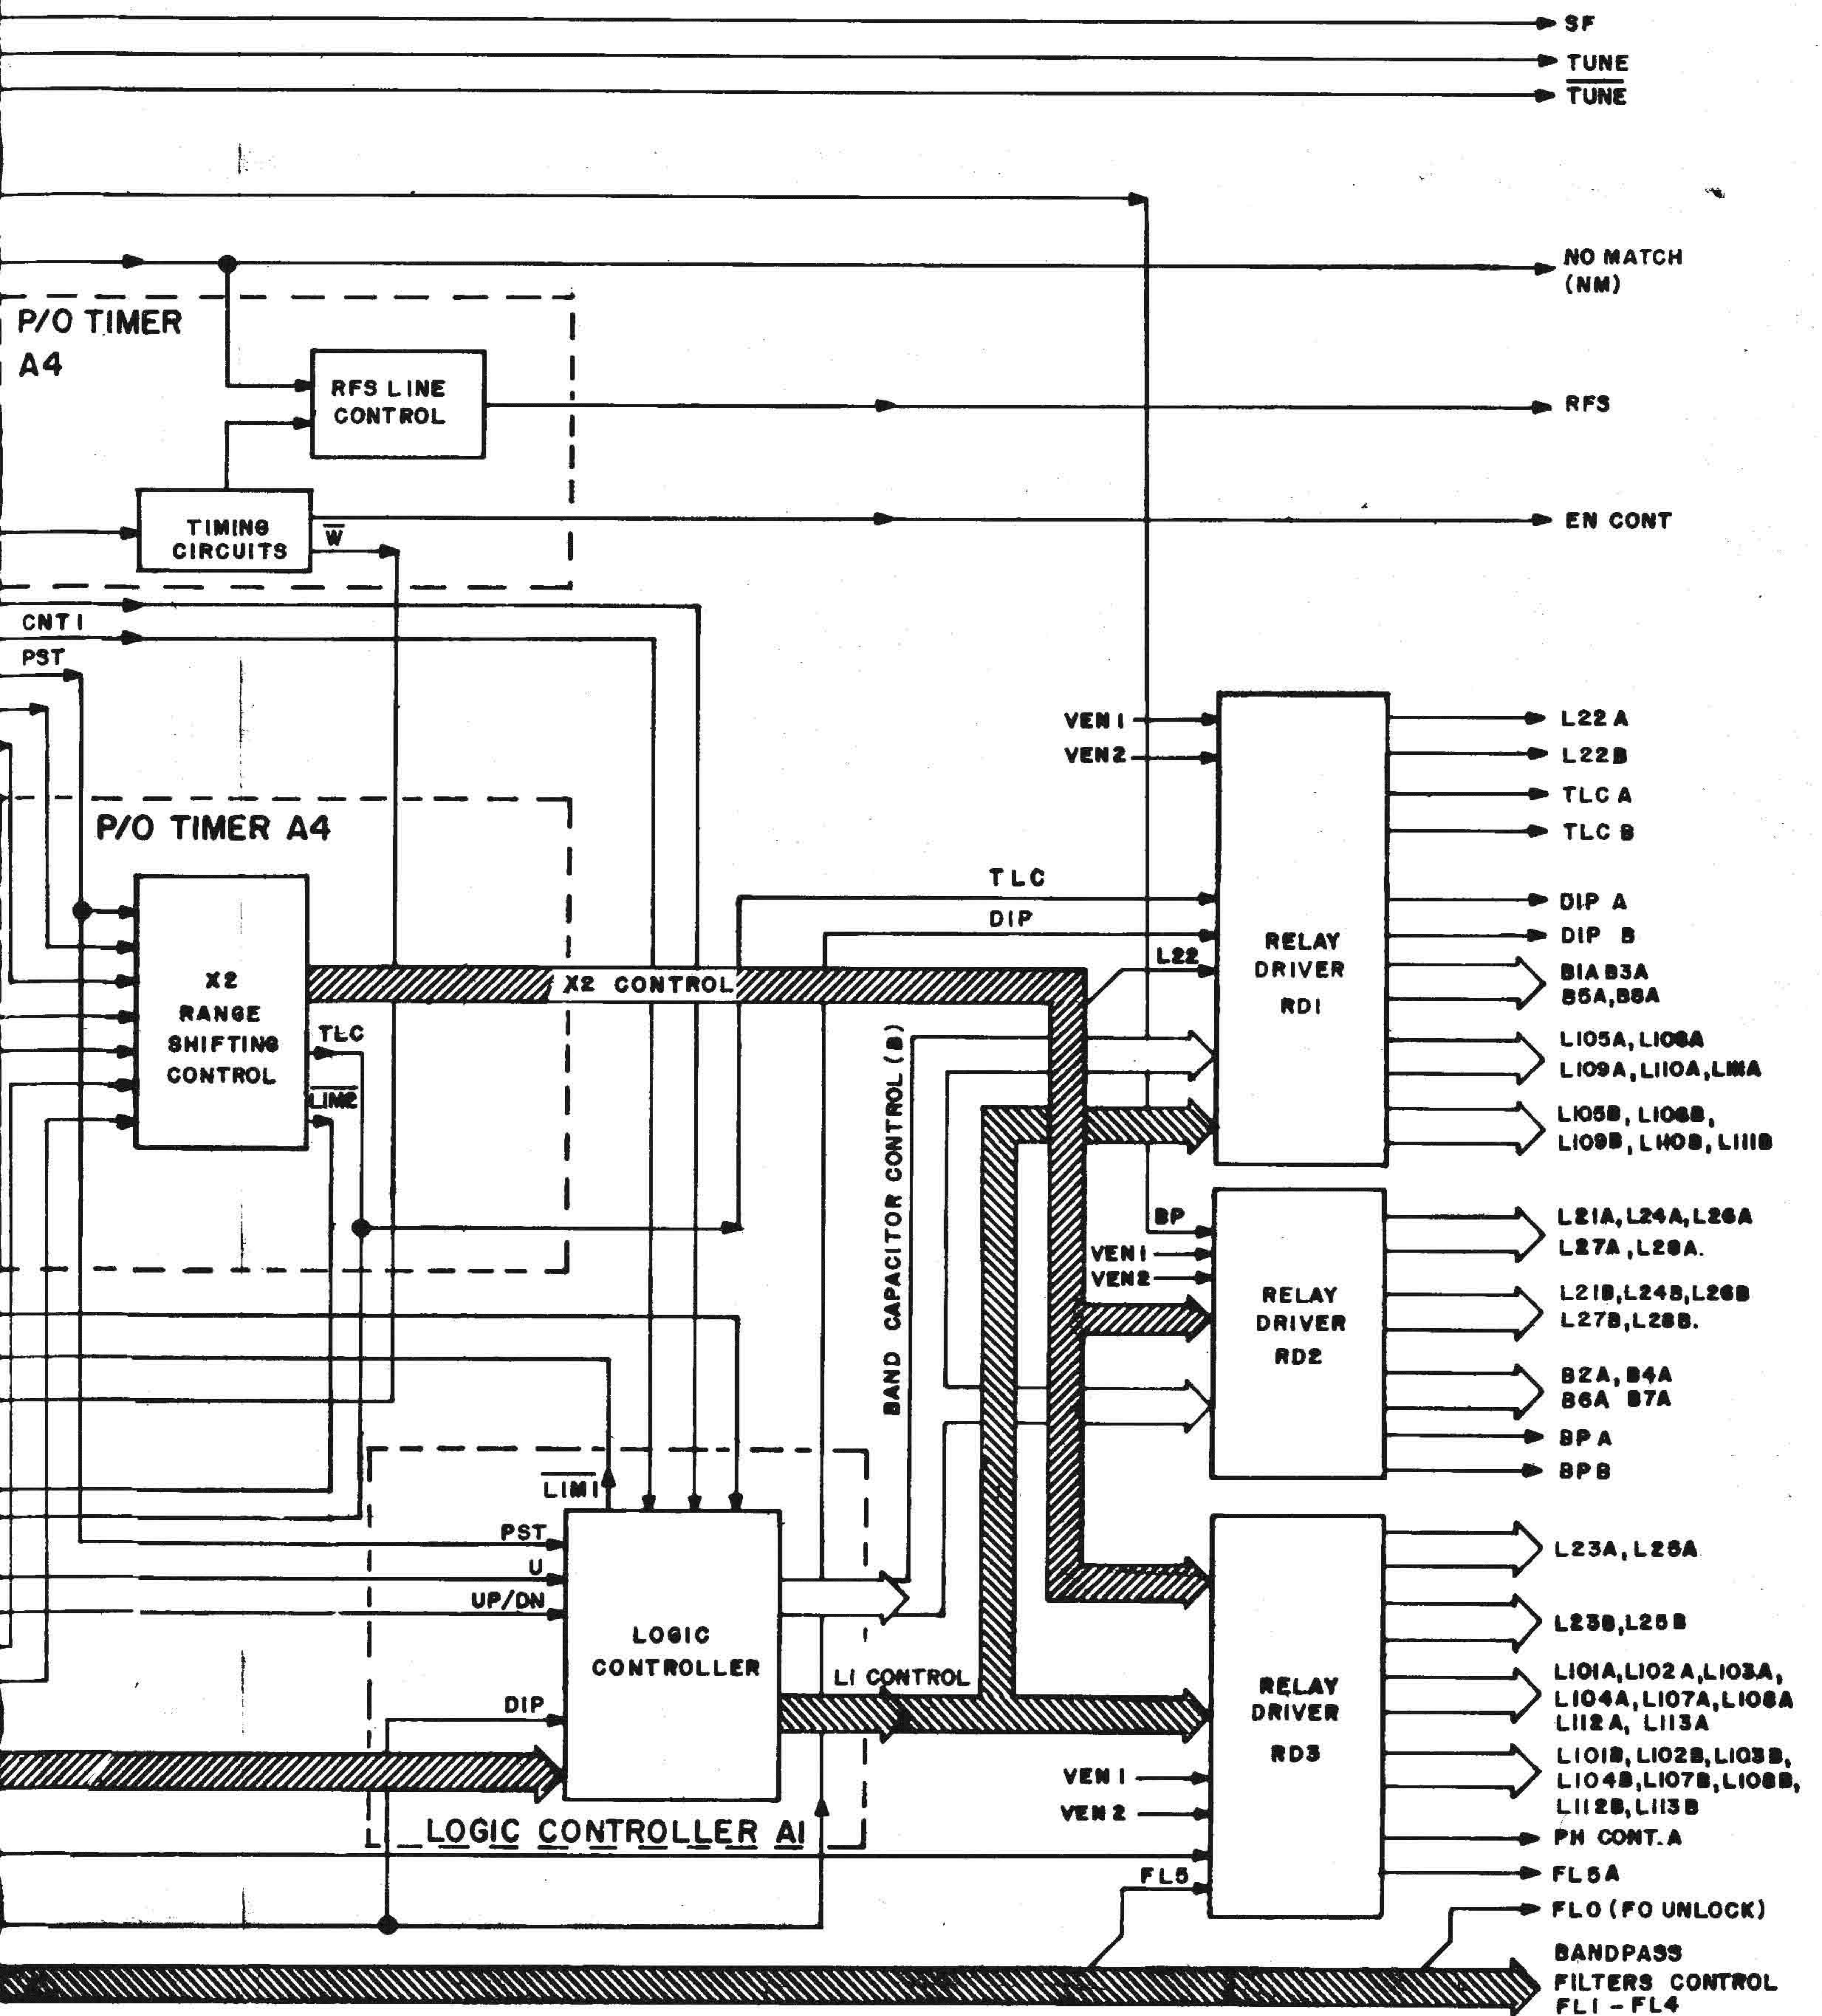

Fig. 2-31. Module LORD 1A5A2, block diagram
(fig. 2-31 through 2-42)
a. General Description (fig. 2-31).
(1) Logic controller A1: contains logic circuits and decoder which provide control signals for L1 and for the band capacitors in module MN 1A5A1.
(2) Decoder A2: contains logic circuits and decoders which provide control signals for the bandpass filters and phase detector selection relay in module SNF 1A5A3, and frequency range information to the logic controller, A1.
(3) Processor A3: contains the special-purpose processor.
(4) Timer A4: provides timing signals and controls the second variable series element, X2, in module MN 1A5A1, using information provided by the decoder A2.
(5) Relay drivers, RD (three microelectronic modules): convert the logic-level signals provided by the other microelectronic modules to drive signals appropriate for driving the controlled relays in modules SNF 1A5A3 and MN 1A5A1.
b. LORD Interface (fig. 2-31).
(1) The LORD receives the following control lines:
(3) Second matching trial. The second matching trial (point B) is automatically started when one of the two variable components reached its extreme value, without achieving a VSWR less than 1.5:1 or obtaining at least a level change on either the R- or ϕ -line. When the second trial starts (point B), the appropriate component of the matching network is brought to the home condition (the other extreme value, i.e. if the previous matching trial ended with minimum L2 inductance, the second matching trial starts with L2 at maximum inductance). If matching is not obtained in this condition, the program returns to point A and the operations described in (2) above are repeated. The second matching trial ends successfully only when the VSWR is less than 1.5:1, or level changes were obtained on both the R and ϕ lines.
(4) No-match condition. If the second matching trial fails, the no-match (NM) condition is declared. Transmission is then inhibited and an alarm indication is generated.
d. LORD Processor Operation (fig. 2-31).
(1) The LORD processor is activated by the start pulse, \overline{PP} , provided by circuits in microelectronic module A4. This pulse is generated when either of the following events occur:
the address latch). The input selector is controlled by several of the data bus lines. The binary code appearing on these lines is used to select the appropriate input line (see fig. 2-31), and this line is connected to the address latch. In the address latch, the selected line is combined with the partial address appearing on the other data bus lines and the new address is formed.
e. Control of External Circuits (fig. 2-31). The LORD processor interfaces the external circuits via circuits contained in microelectronic modules A1, A2, and part of A4. Several of the control lines exiting from these microelectronic modules are buffered by driver circuits contained in the three relay driver microelectronic modules, i.e. RD1, RD2 and RD3. This paragraph analyzes the operation of these circuits, and their interaction with the LORD processor.
(1) RFS line control - microelectronic module, A4. The RFS line is controlled by the LORD processor via circuits contained in microelectronic module A4.